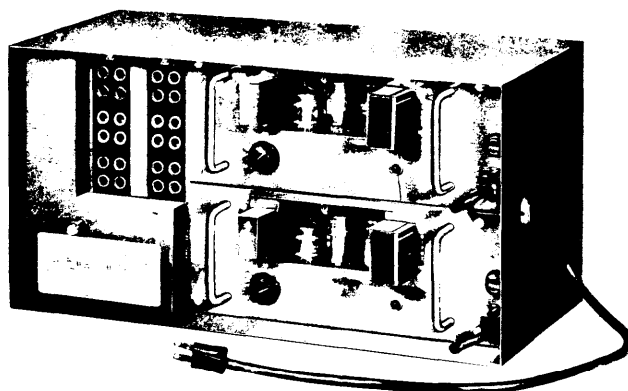

Fig. 1 — Front View of KS-16740 Amplifier System with Cover Removed
1.05 Figs. 1 through 4 are photographs of the System, cabinet and amplifier.